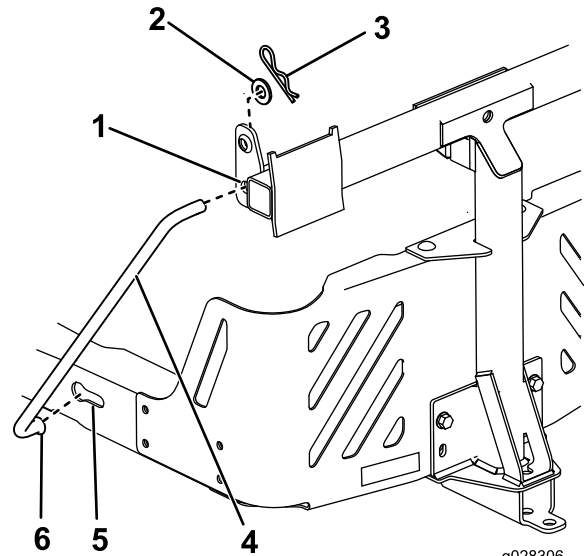

Figure 16
5. Install the bent, flared end of a rod into the keyed slot in the left side of the machine frame, and move the rod rearward to seat it in the frame (Figure 16).
6. Insert the bent ends of the rods into the attachment mount as shown in Figure 16 and secure the end of each rod with a washer and hairpin cotter.